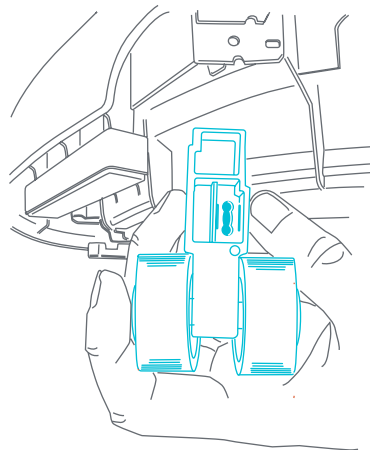

Fig. 16b
- Release the wheel from the housing (Fig. 16b). Repeat for the other sides.